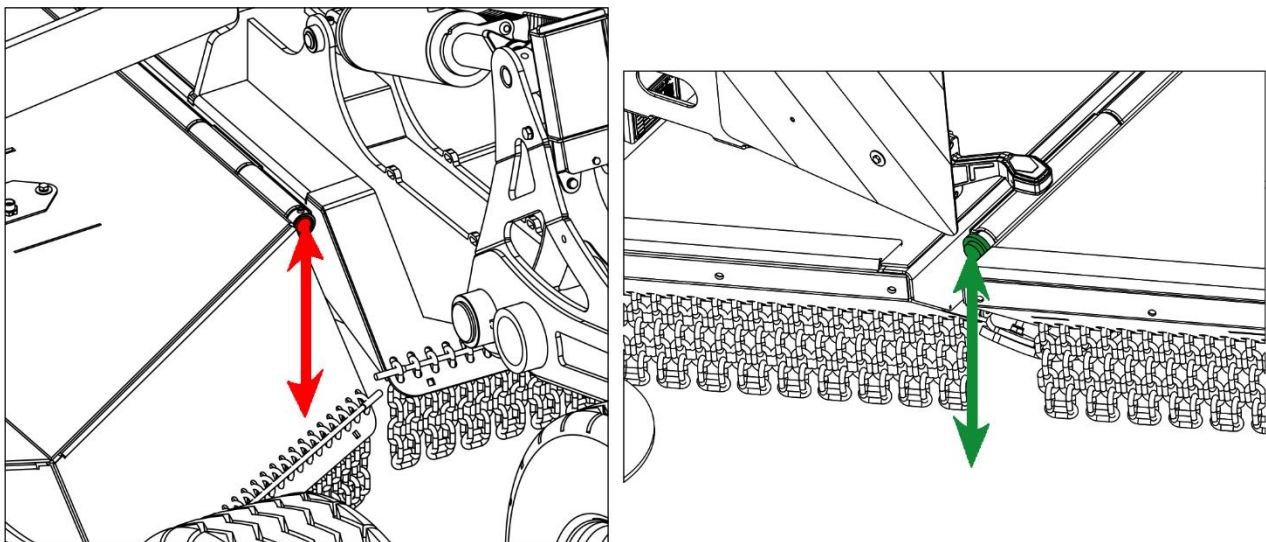

Figure 4.19 – Stubble Master Front To Rear Machine Levelling
- 4.7.1.2 Measure from each end of the top of the hinge bar to the ground; see Figure 4.19 to determine the height of the front and rear of the machine.